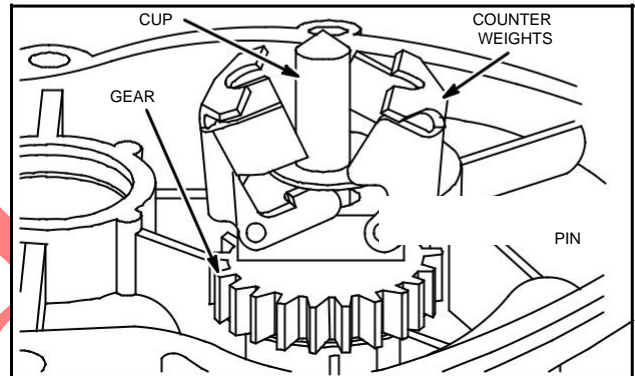

Fig. 11 – Governor Gear Assembly, Typical
1. Check gear for damaged or worn teeth, Fig. 11.